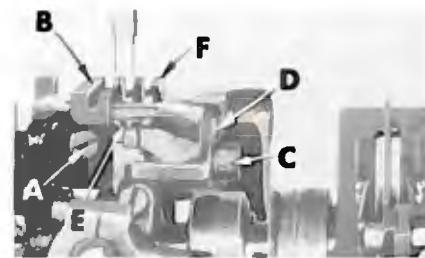
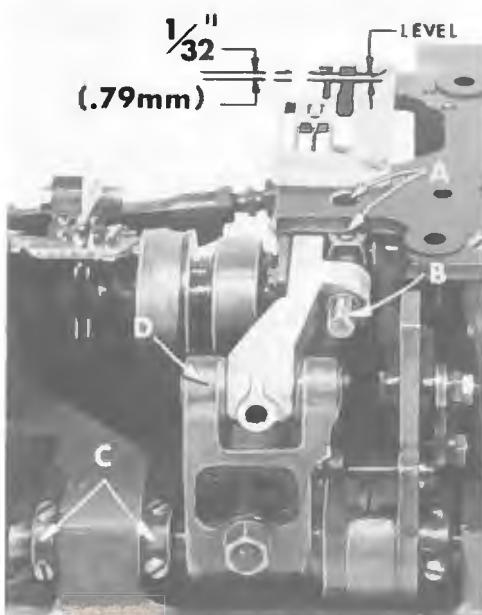
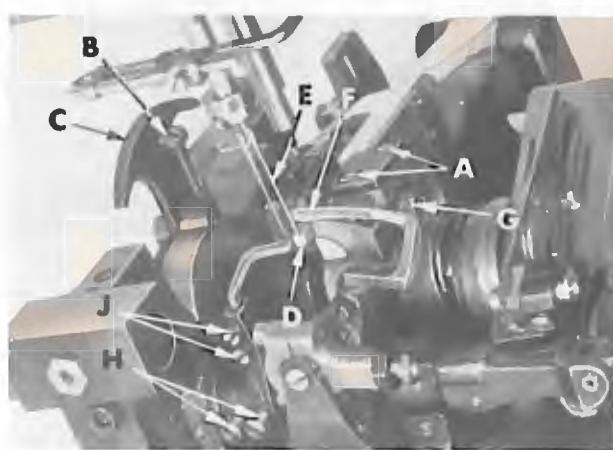
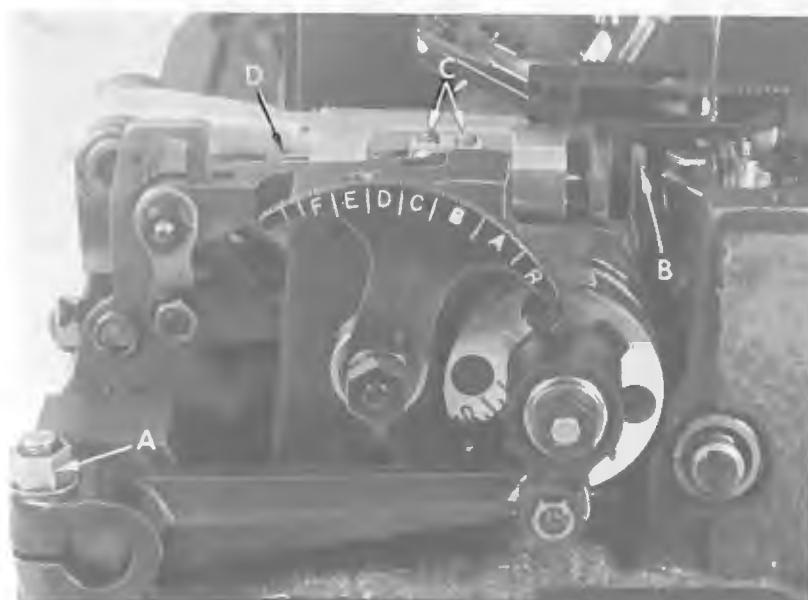

Fig. 9
Fig. 10
Fig. 11
Fig. 12
The differential feed dog should be set to rise the depth of a full tooth or approximately $3/64$ inch (1.19mm) above the throat plate at highest point of travel. Adjustment can be made by loosening screw (A, Fig. 9 or B, Fig. 12), raise or lower feed dog (B, Fig. 9) and retighten screw. At maximum feed travel, the feed dog should clear the forward end of throat plate by $1/32$ inch (.79 mm) Fig. 10; also parallel to the top surface of throat plate and centered in throat plate slot across-the-line-of-feed. Adjustments can be made by loosening set screws (A, Fig. 10 or C, Fig. 12), permitting the differential feed bar (B, Fig. 10 or D, Fig. 12), to be moved forward, backward or rotated as needed to acquire the aforementioned conditions. Under extreme circumstances it may be necessary to shift the complete feed mechanism slightly, to the right or left to meet these conditions. This can be done by loosening collars (C, Fig. 10) and moving feed rocker (D); retighten collars and set screws securely. Make sure the feed rocker arm does not bind after making this adjustment.
To raise or lower main feed dog, loosen Allen screw (C, Fig. 9) allowing feed dog holder (D) to be moved. NOTE: Screw (E) must be set to support the main feed dog (F) when specified height is obtained. Retighten screw (C).
To center main feed dog in the slots of throat plate across-line-of-feed, loosen screws (A, Fig. 11), move feed dog to the right or left as required, retighten screws. To center the feed dog in-line-of-feed, loosen nut (A, Fig. 12) and move feed rocker forward or backward as needed, retighten nut.
The differential feed ratio is set by loosening screw (B, Fig. 11) and move the selector slide (C) to the desired position. The screw and selector slide are accessible through the top of the cloth plate on the left side. Moving the differential feed selector slide (C) toward the front increases the amount of differential and moving it toward the rear decreases the amount of differential feed. Retighten screw.
Set the rear needle guard (D, Fig. 11) horizontally so that it does not quite contact the rear of the right needle (E) when at its most forward point of travel. A clearance of .005 inch (.13 mm) is permissible. It should be set as low as possible, yet have its vertical face approach within about 3/64 inch (1.19 mm) of the needle, until the point of the looper (F), moving to the left, is even with the needle. To move needle guard, merely loosen screw (G), move needle guard as required, and retighten screw.
Set the front needle guard so that it pushes the left needle back toward the path of the looper as it moves behind the needle. The looper may brush but not pick at the left needle. It should be set as low as possible, yet have its vertical face push the left needle until the point of the looper is just past the left side of the left needle. The front needle guard should not contact the rear needle guard or right needle at any time. To move guard forward or backward, merely loosen screws (H, Fig. 11) move needle guard as required and retighten screws. To raise, lower or rotate needle guard, loosen screws (J), move guard and retighten screws after guard is properly set.